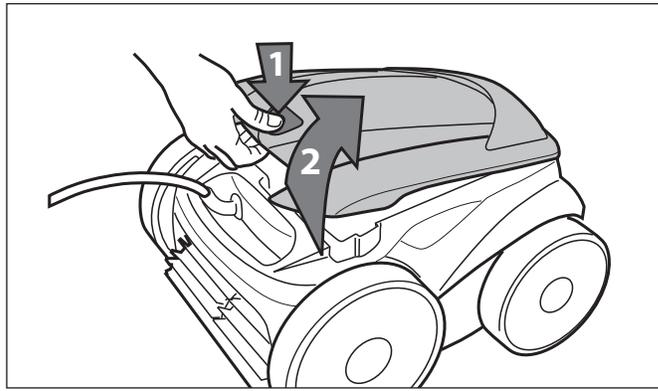

Figure 21. Lift Cleaner Cover
3. Push the cover lock (1) and lift the cover (2) until it is secured in the vertical position. (Figure 21).